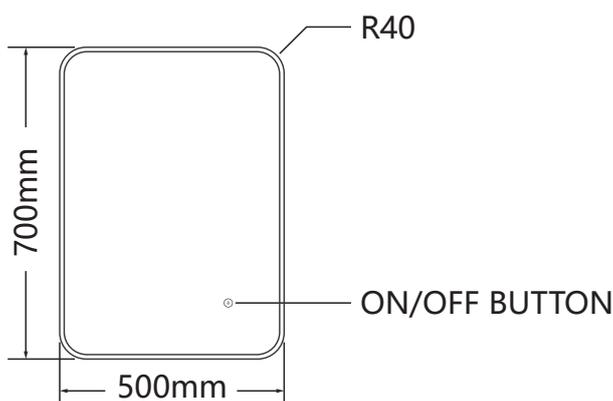

Fig. 1
7. Finally switch on the power, and then touch the switch sign (Fig 1) with a finger on the sensor to test the products.